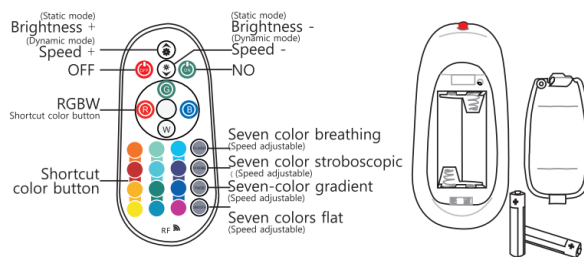

Figure.3
The remote control controls the functions of the buttons. (Figure 3)
6. The use of the remote control button.(Figure 3)